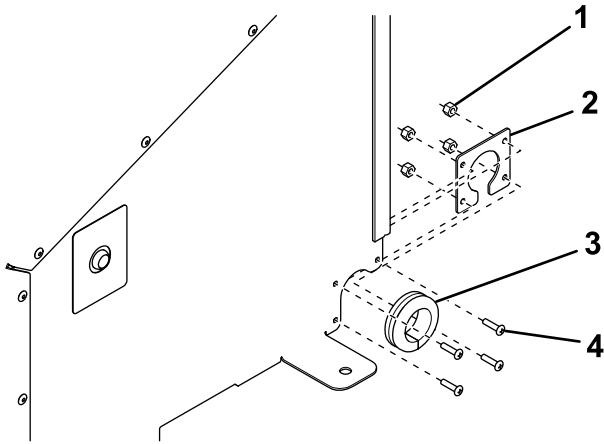

**Figure 5**
11. Insert the light button assembly through the hole and secure it in place with a retaining clip (Figure 5).